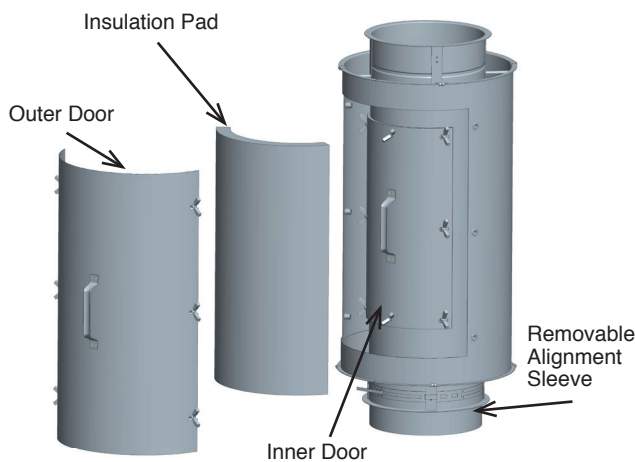

Figure 86: Step 1-3 of Removal for Inspection for the ADL
- 3- Remove the insulation pad and set it in a safe place during the inspection. See Figure 86.